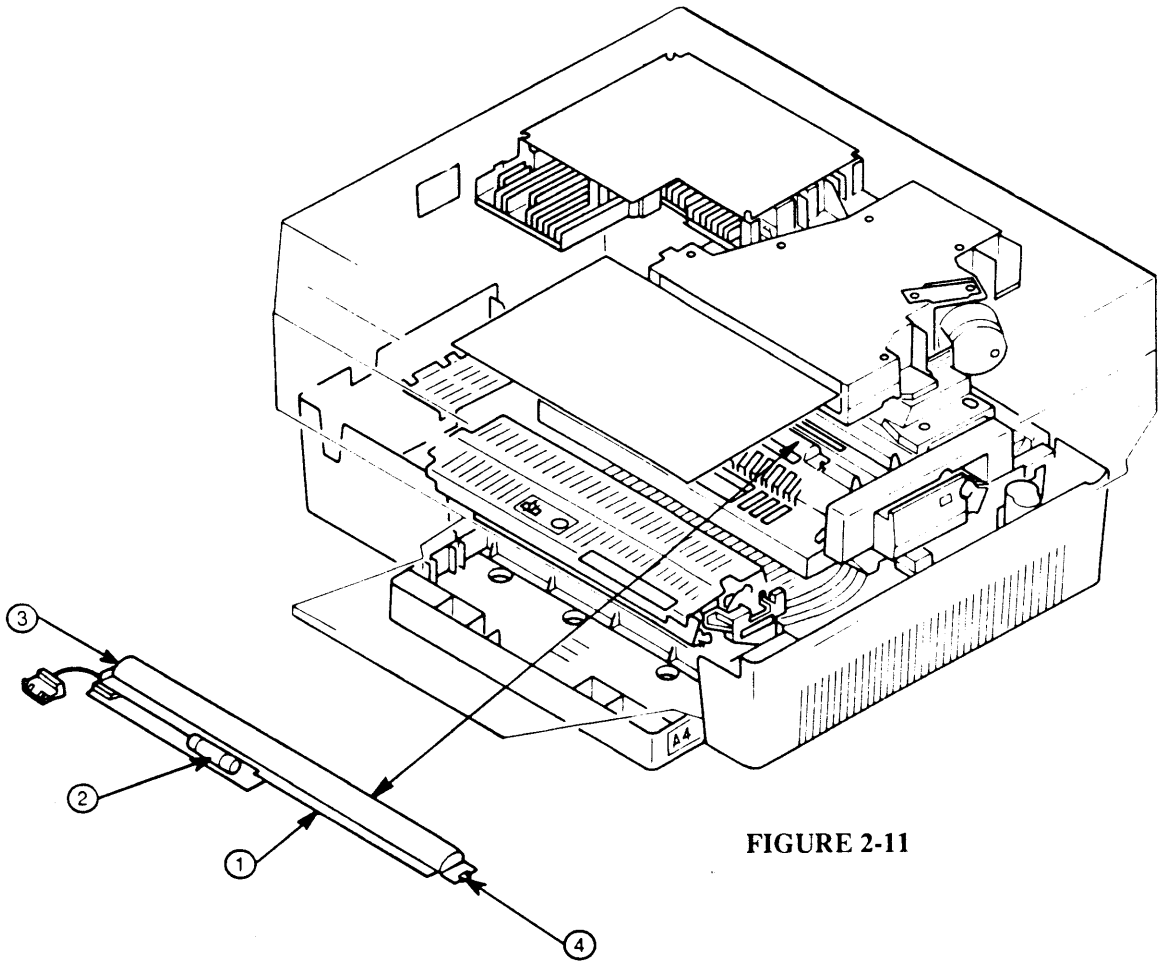

FIGURE 2-11
The preconditioning exposure assembly (Figure 2-11, #1) prepares the print drum in the toner cartridge for a new image. The lamps expose the print drum to a uniform light that neutralizes any leftover charges from the last print cycle, thus "erasing" the previous image from the drum.
The print counter (Figure 2-11, #2, a fuse-like component that is part of the assembly) shows how many prints have been made on the printer since the counter was installed. Each numbered mark on the counter represents approximately 10,000 pages. When the mercury bubble in the counter reaches "10," the counter should be replaced.
In these instructions, right and left are used with reference to Figure 2-11.
2. Remove the single mounting screw at the left of the assembly (see Figure 2-11, #3).
3. To remove the assembly, put one finger on the right side of the assembly and push to the left until the tab at the right (see Figure 2-11, #4) comes free.